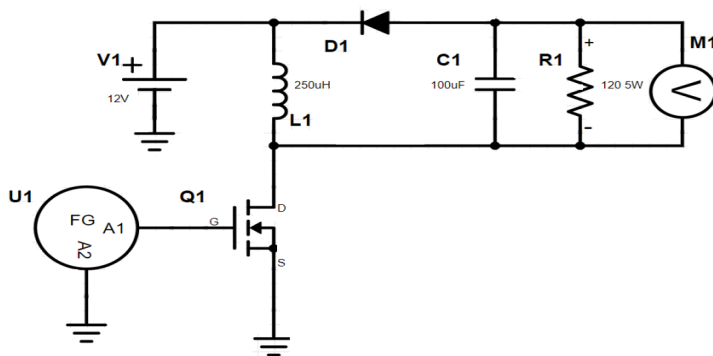

Figure 33
1. Make connections according to Fig.33
2. The function generator (FG) has the positive lead (A1) connected to the MOSFET gate G.